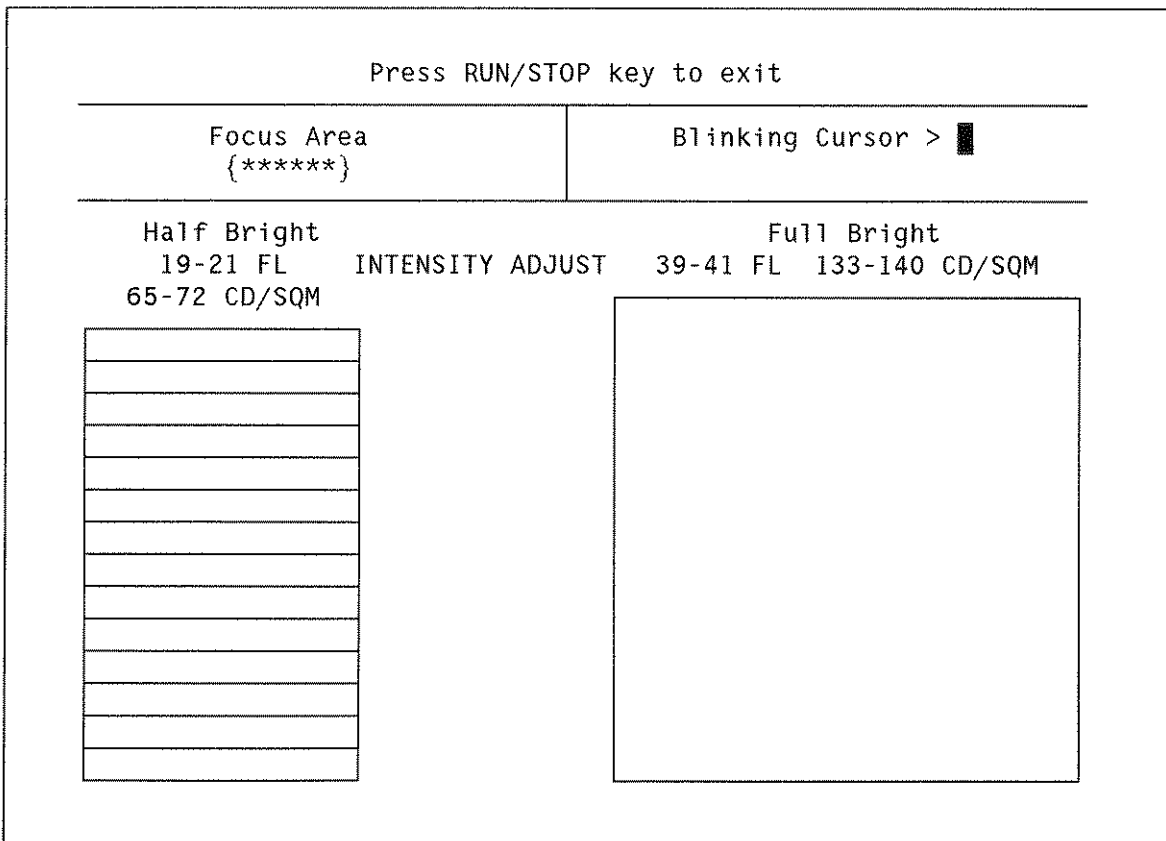

Figure 10-5. Intensity Adjust Pattern
13. Activate the Intensity Adjust Pattern as shown in figure 10-5 by pressing the NEXT key on the 54200A/D.